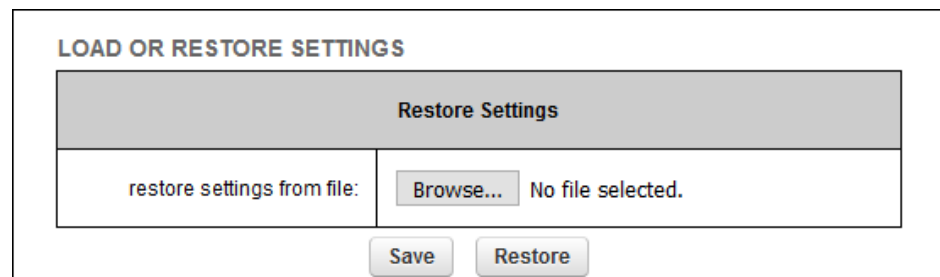

Figure 61. Configurator GUI (LOAD OR RESTORE SETTINGS dialog)
- The **LOAD OR RESTORE SETTINGS** dialog will be shown (Figure 61 \(page 137\)).